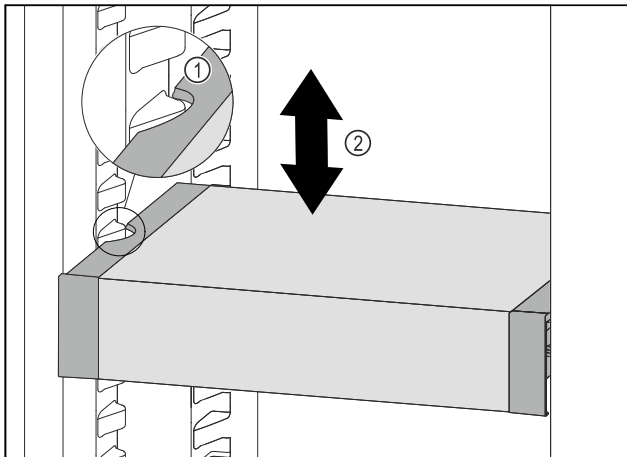

Fig. 102
- ▶ Pull VarioSafe forwards until the recesses in the side of the VarioSafe are at the level of the support rib in the refrigerator compartment. *Fig. 102 (1)*
- ▶ Move VarioSafe up or down in the refrigerator compartment until the desired height is reached. *Fig. 102 (2)*